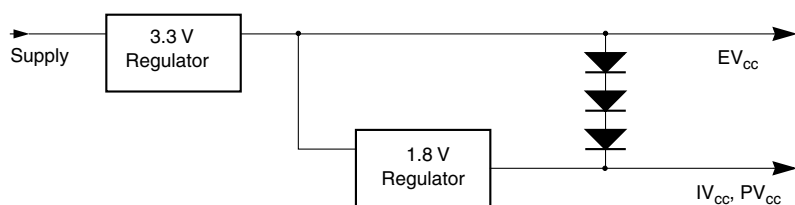

Figure 20-2. Example Circuit to Control Supply Sequencing
$IV_{cc}$  should not be allowed to rise early (1). This is usually avoided by running the regulator for the  $IV_{cc}$  supply (1.8 V) from the voltage generated by the 3.3-V  $EV_{cc}$  supply (Figure 20-2). This keeps  $IV_{cc}$  from rising faster than  $EV_{cc}$ .
$IV_{cc}$  should not rise so late that a large voltage difference is allowed between the two supplies (2). Typically this situation is avoided by using external discrete diodes in series between supplies as shown in Figure 20-2. The series diodes forward bias when the difference between  $EV_{cc}$  and  $IV_{cc}$  reaches approximately 2.1V, causing  $IV_{cc}$  to rise as  $EV_{cc}$  ramps up. When the  $IV_{cc}$  regulator begins proper operation, the difference between supplies should not exceed 1.5 V and conduction through the diode chain reduces to essentially leakage current. During supply sequencing, the following general relationship should be adhered to:  $EV_{cc} \geq IV_{cc} \geq (EV_{cc} - 2.1 \text{ V})$ . The PLL Vdd ( $PV_{cc}$ ) supply should comply with these constraints just as  $IV_{cc}$  does. In practice,  $PV_{cc}$  is typically connected directly to  $IV_{cc}$  with some filtering.